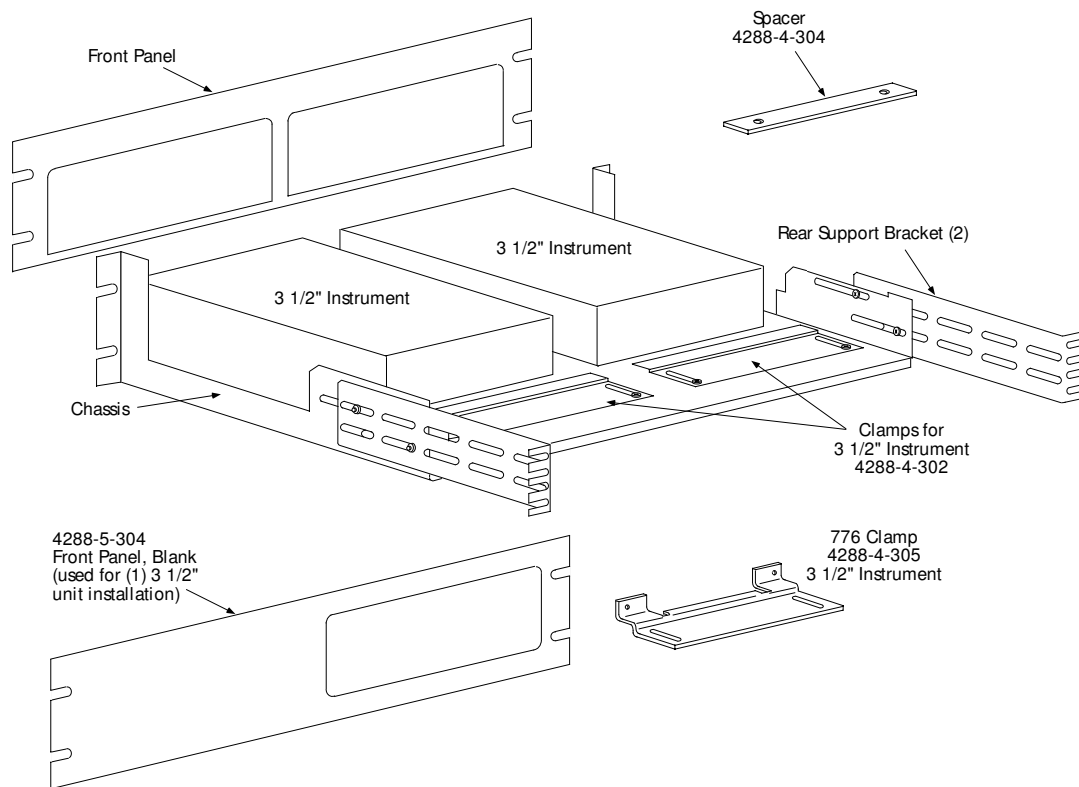

Figure 2
Refer to Figure 2 to install the chassis, support brackets, and front panel in the rack and to attach the instruments to the chassis.
3. Position the clamp against the rear panel as shown in Figure 2.